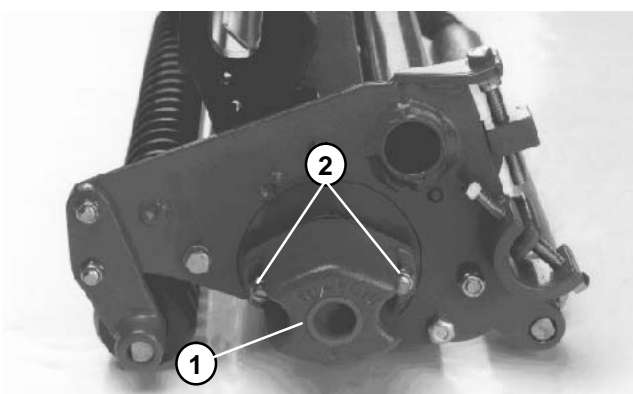

Figure 6
- A. Remove the mounting nuts from the counterbalance end cap, and remove end cap from the mounting studs (Fig. 6).